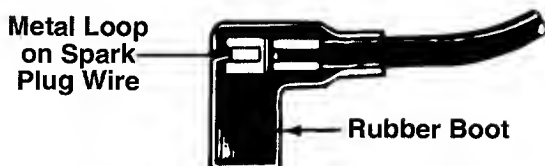

FIGURE 4.
2. Attach spark plug wire to spark plug. Make certain the metal loop on the end of the spark plug wire (inside the rubber boot) is fastened securely over the metal tip on the spark plug. See figure 4.